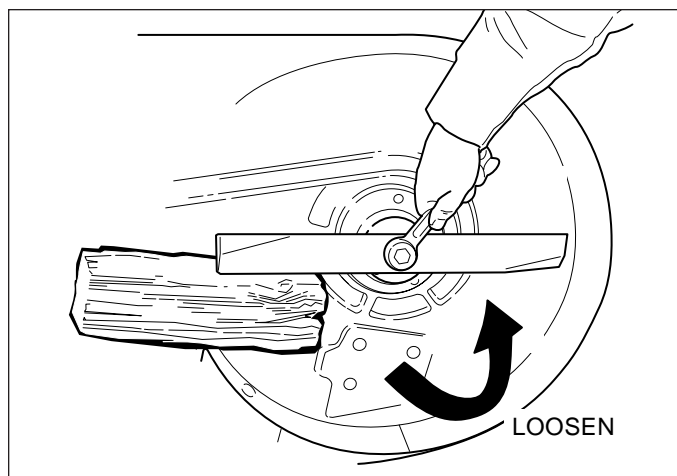

Figure 19. Removing The Blade
3. To remove blade for sharpening, use wooden block to hold blade while removing the blade mounting cap-screw (Figure 19).